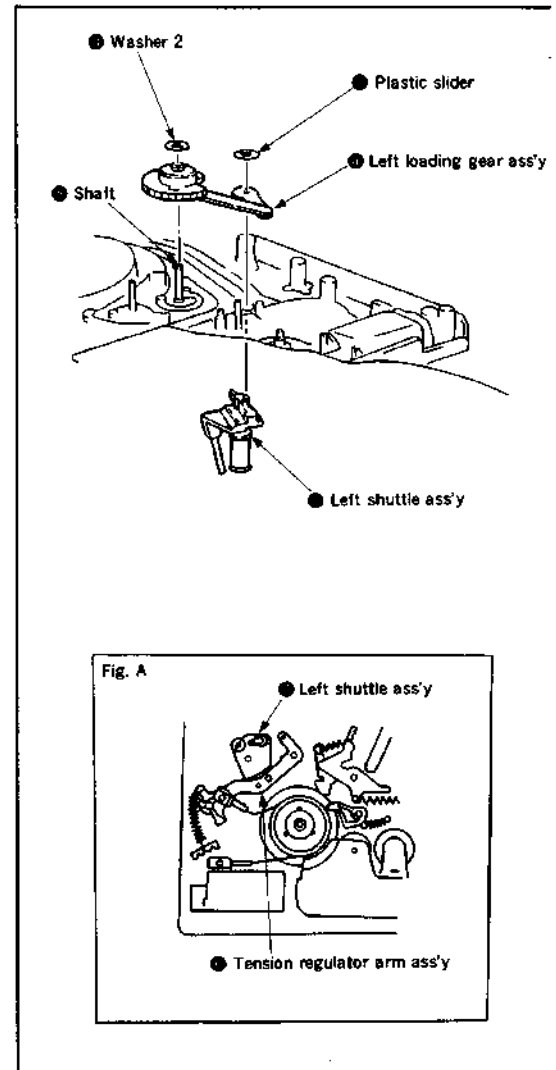

Fig. 3-41.
**3-35. LEFT SHUTTLE ASS'Y, LEFT LOADING GEAR ASS'Y (Fig. 3-41)**